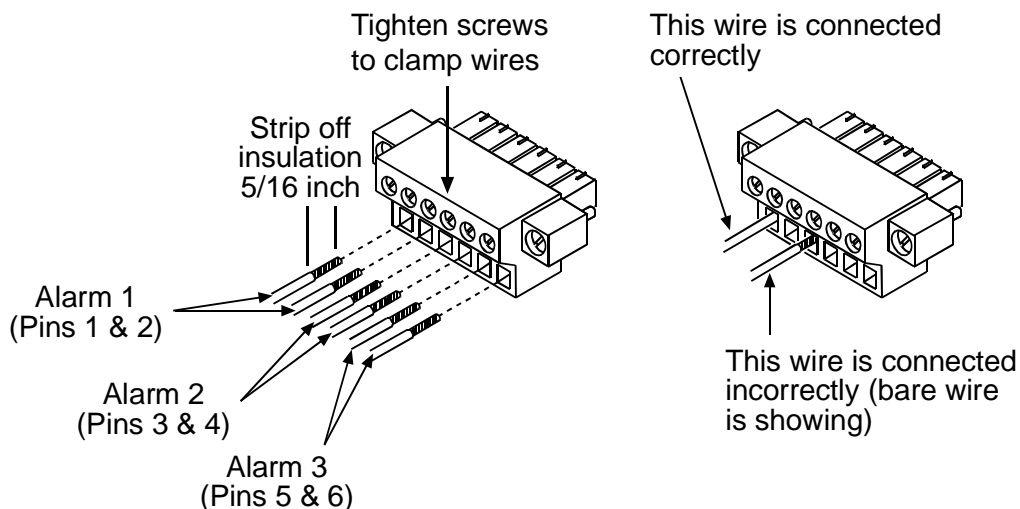
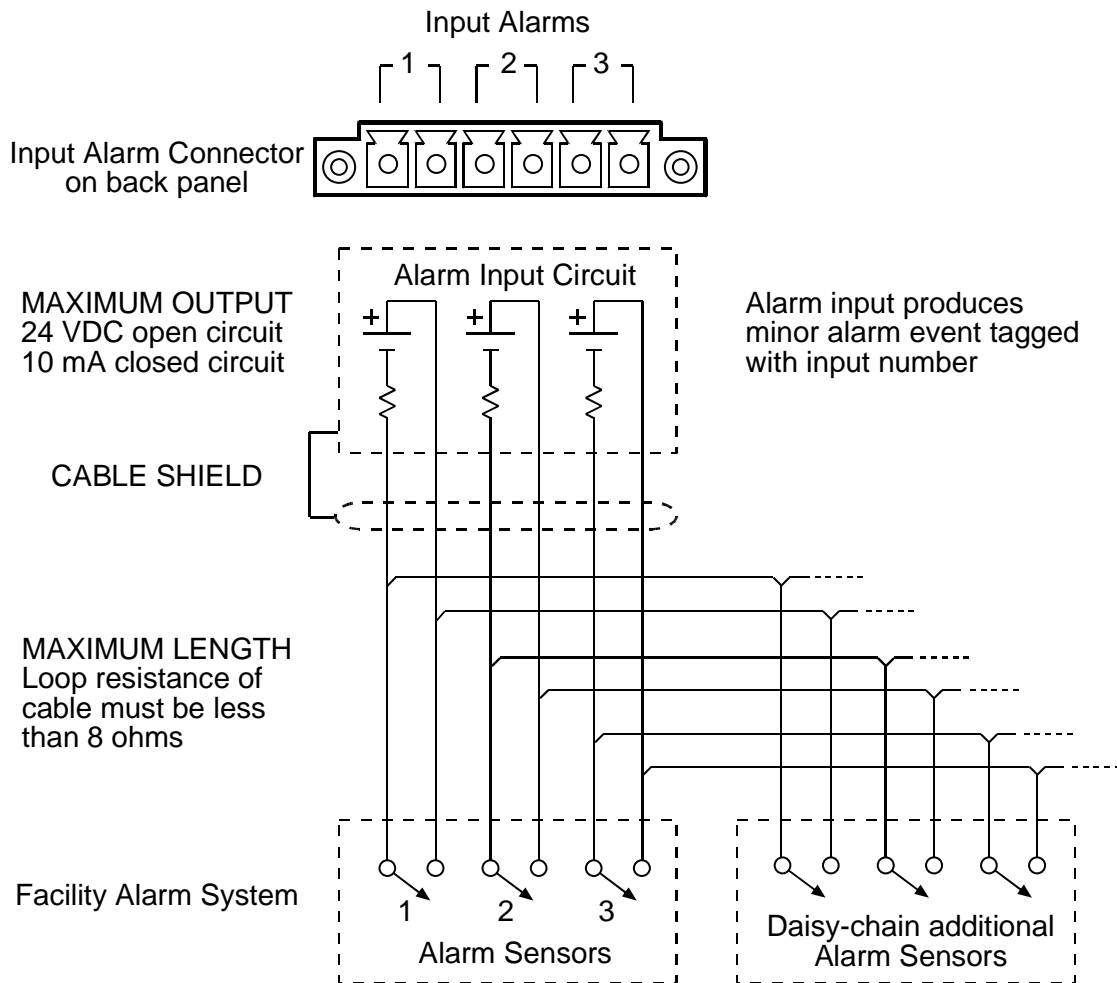

Figure 6-20. Alarm Input Connector Wiring
Figure 6-21. Typical Connections to Facility Alarm System
2. Refer to Figure 6-20 and Figure 6-21 when wiring connector to facility alarm system.
3. Use volt-ohm meter to ensure that no voltage is present on any of the wires from the facility alarm system (see Figure 6-21).
4. Strip the wires so that 5/16 inch of bare wire is exposed (see Figure 6-20).
5. Orient the alarm output connector as shown in Figure 6-20.
NOTE: Figure 6-21 shows the alarm input connector wiring to a typical alarm interface circuit. The facility alarm input to the Access Navigator should provide normally open contacts. The Access Navigator will energize these wires so that a contact closure will produce a minor alarm indication and minor alarm message.